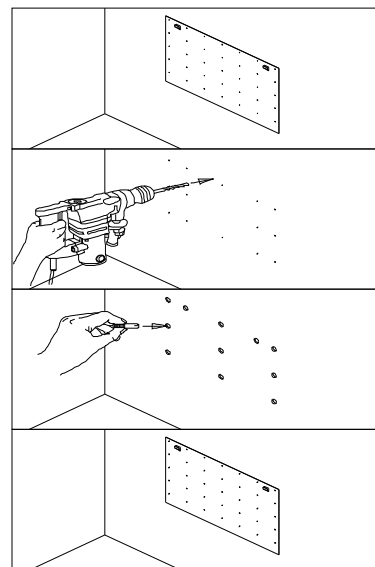

Fig.3
5. Referring to Fig. 3, fix the hanger to the wall.